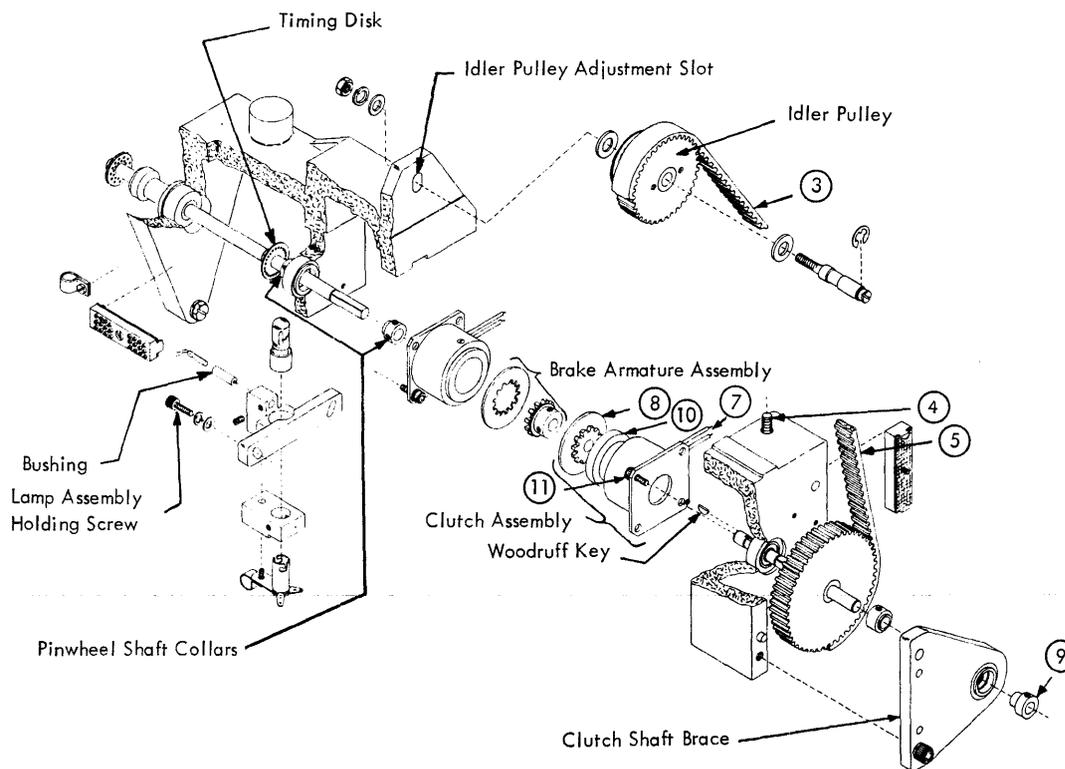

Figure 4-17. Pinwheel Shaft and Clutch Shaft Assembly
Position each motor so that each belt can be moved at its center point $\pm \frac{1}{2}$ ". Position the idler pulley (Figure 4-17) in the idler pulley adjustment slot for $\frac{1}{2}$ " deflection in the clutch shaft belt.
2. Remove the screws holding the clutch shaft brace to the frame. Remove the collar on the end of the clutch shaft. Remove clutch shaft brace from end of frame. See Figure 4-17.
The pinwheel should be centered in the read head groove with approximately .010" clearance on each side. This adjustment is accomplished by positioning the two collars shown in Figure 4-17. The brake assembly must be removed to adjust the rear collar. Check the clearance between the timing disk and the photo diode after making this adjustment.
Numbered balloons in Figure 4-17 refer to the steps following: